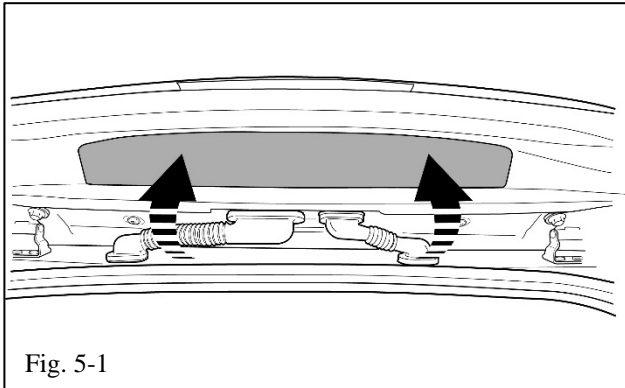

Fig. 5-1
- (a) Engage the 4 claws and 4 clips and reinstall the back door upper trim panel assembly (Fig. 5-1).